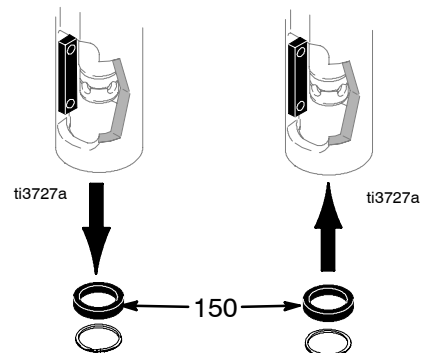

Fig. 10
4. Fig. 10. Remove ring magnet (150).
1. Fig. 10. Install new ring magnet (150) with dimple marks facing down.